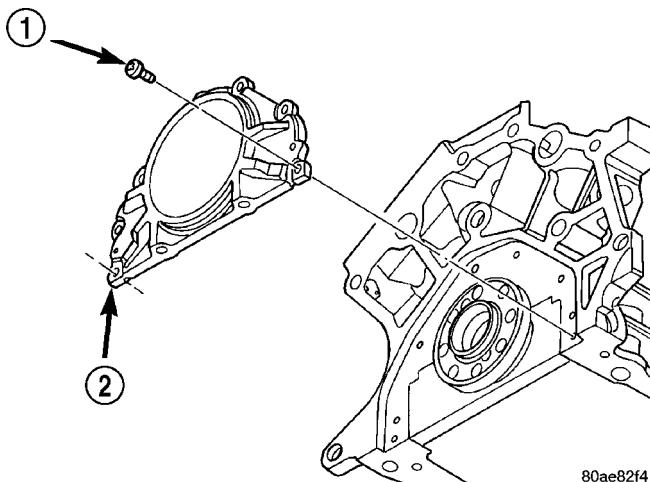

Fig. 77 Oil Seal Retainer
(1) Remove crankshaft rear oil seal. (Refer to 9 - ENGINE/ENGINE BLOCK/CRANKSHAFT OIL SEAL - REAR - REMOVAL)
(2) Remove oil pan. (Refer to 9 - ENGINE/LUBRICATION/OIL PAN - REMOVAL)
- (3) Remove seal retainer attaching screws.
- (4) Remove seal retainer (Fig. 77).